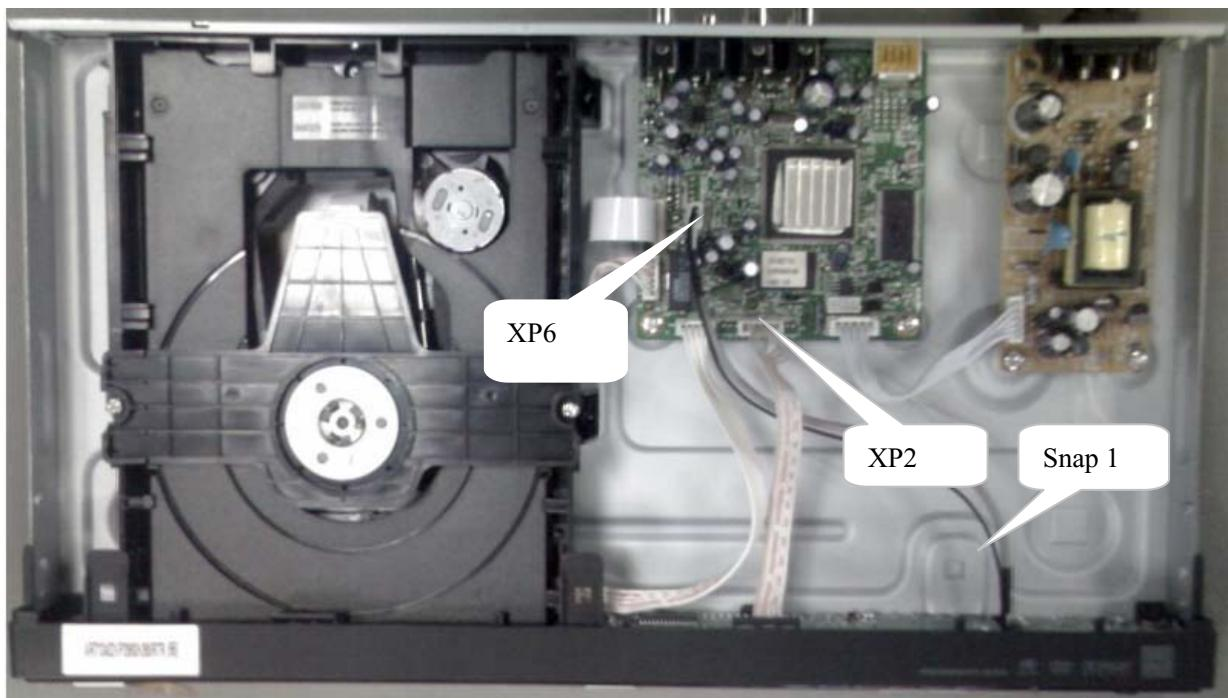

Figure 5
Step4: Dismantling Front Panel, disconnect the connector (XP2, XP6), then release the snaps on the both sides of Front Panel and bottom cabinet , then gently pull the Panel out from the set. (Figure 5 & 6)